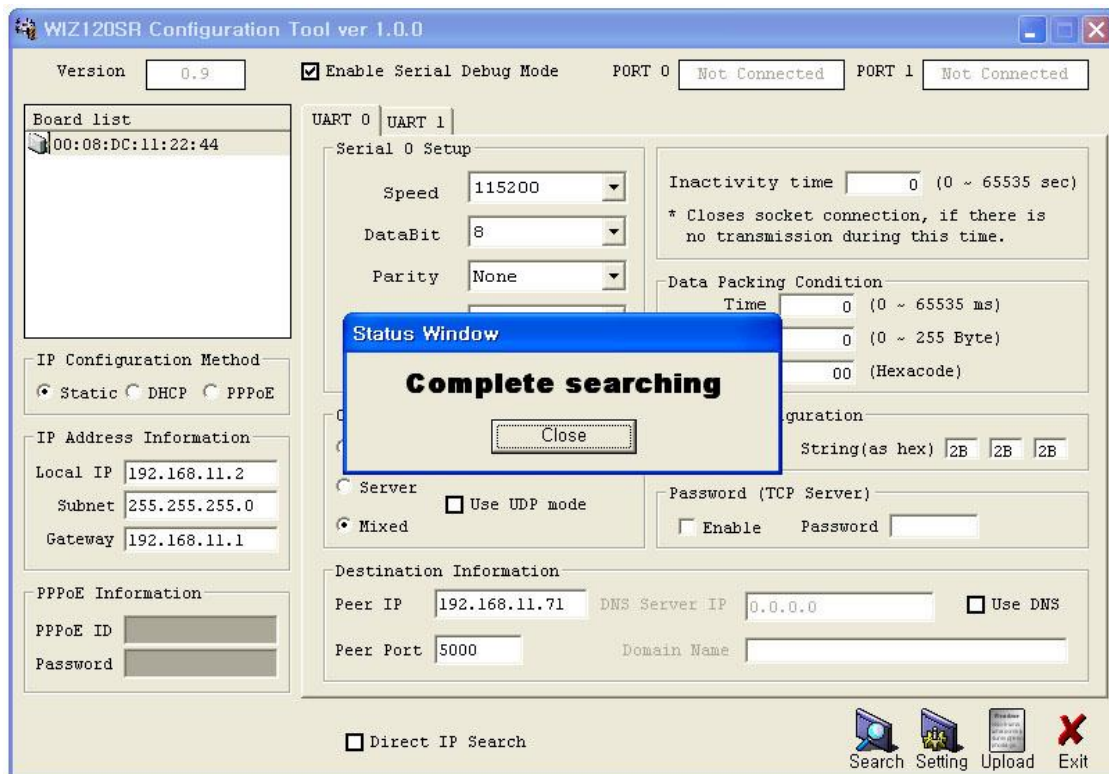

Figure 5. Board Search Window
- ① Run 'WIZ120SR Configuration Tool' program, and click the "Search" button.
- ② If the module is properly connected to the network, the "Searching Complete" message and the MAC address will be displayed on the "Board List" as shown in Figure.5.
- ③ Select a module shown in the "Board list", and click the "Upload" button.
- ☞ Before uploading the firmware through Ethernet, you should set the network information of WIZ120SR first, by Configuration Tool program as shown above in Figure 5. By using Ping test, you can check whether your network is configured correctly or not.
- ④ When the window as shown in Figure 5 is displayed, select file to upload and click the "Open" button.